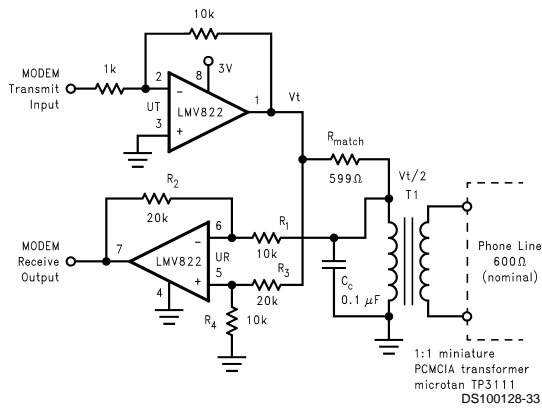

FIGURE 7. Telephone-line Transceiver for a PCMCIA Modem Card
The telephone-line transceiver of *Figure 7* provides a full-duplexed connection through a PCMCIA, miniature transformer. The differential configuration of receiver portion (UR), cancels reception from the transmitter portion (UT). Note that the input signals for the differential configuration of UR, are the transmit voltage (V_t) and $V_t/2$. This is because R_{match} is chosen to match the coupled telephone-line impedance; therefore dividing V_t by two (assuming $R_1 \gg R_{match}$). The differential configuration of UR has its resistors chosen to cancel the V_t and $V_t/2$ inputs according to the following equation: